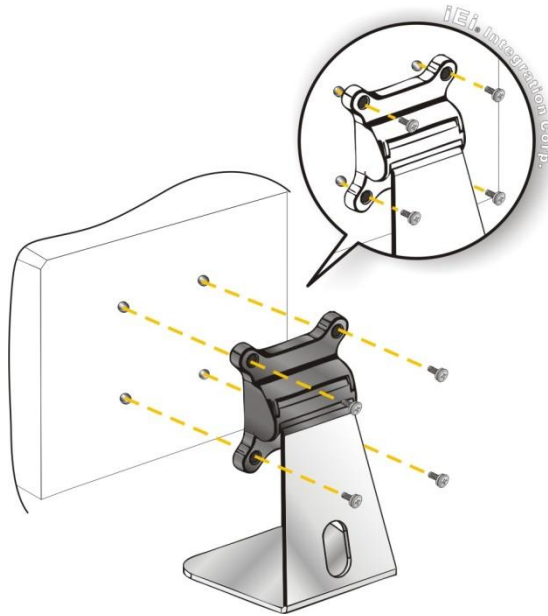

Figure 3-27: Monitor Stand Mounting
Step 2: Secure the monitor to the stand with the supplied retention screws (**Figure 3-27**).